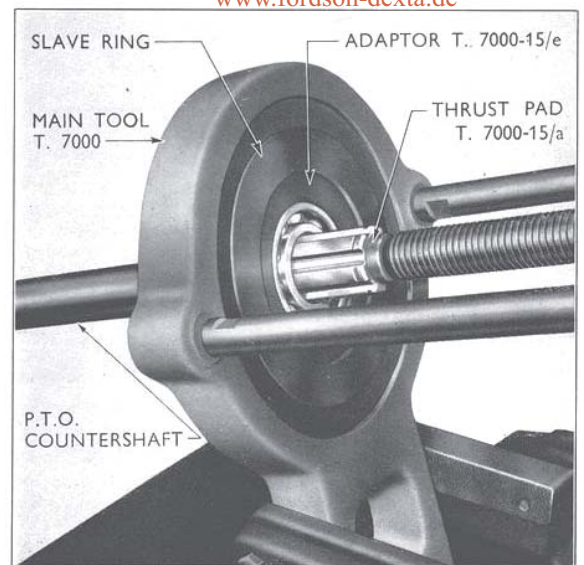

Fig. 9
- (ii) Place thrust pad T.7000-15/a between the rear end of the shaft and the centre screw of the tool (see Fig. 9) and press the shaft through the bearing.